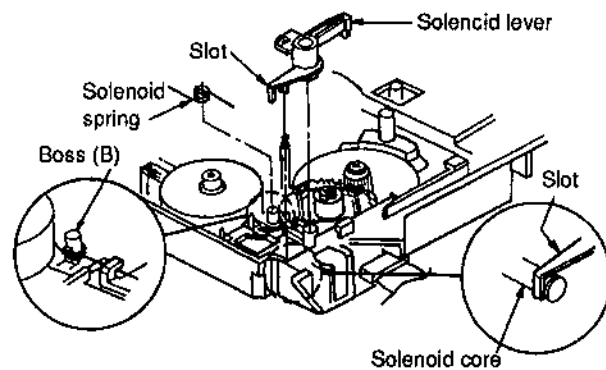

Fig. 3
5. Install the solenoid lever. (See Fig. 3.)
6. Install the solenoid spring to the boss (B). (See Fig. 3.)